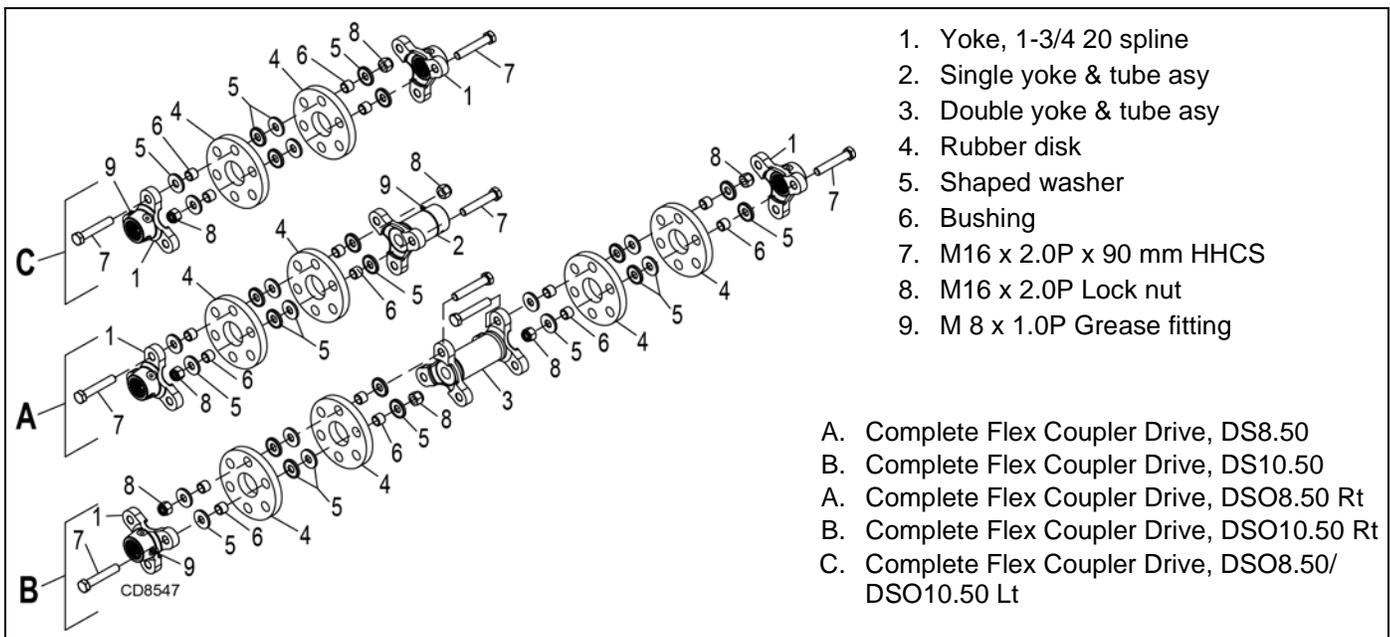

Figure 14. Flexible Couplers
To replace the disks, remove hardware items 5, 6, 7, and 8. Remove sleeves (6) from old disk and install in new disk. Reassemble and torque bolts to 85 lbs-ft. See Figure 14. Take special care not to rotate gearbox shaft and throw blades out of time. If rubber disks have failed and blades are hitting, you will need to re-time the blades per instructions on page 36.
Refer to Figure 14.
Horizontal Shaft Seal Repair (Figure 14)
SPINDLE GEARBOX REPAIR (Figure 14)